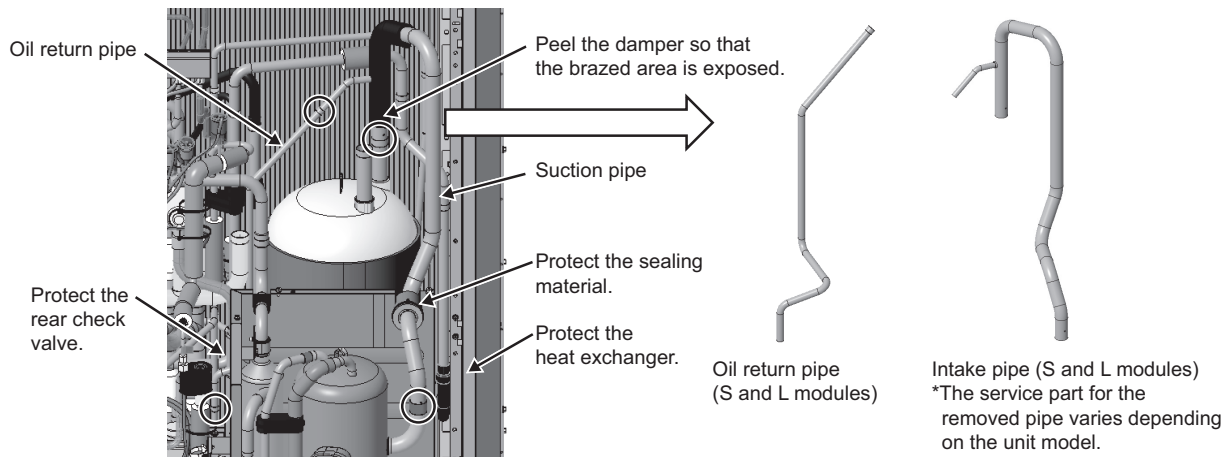

Fig. 7
(7) Remove the brazing from the suction pipe. (Four areas: Fig. 7)